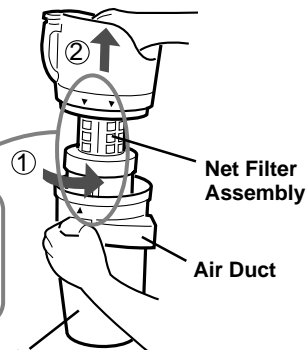

Fig.20
- 2 Hold lower handle on dust cup and turn top handle grip slightly to left Remove net filter assembly from dirt compartment. (Fig.20)